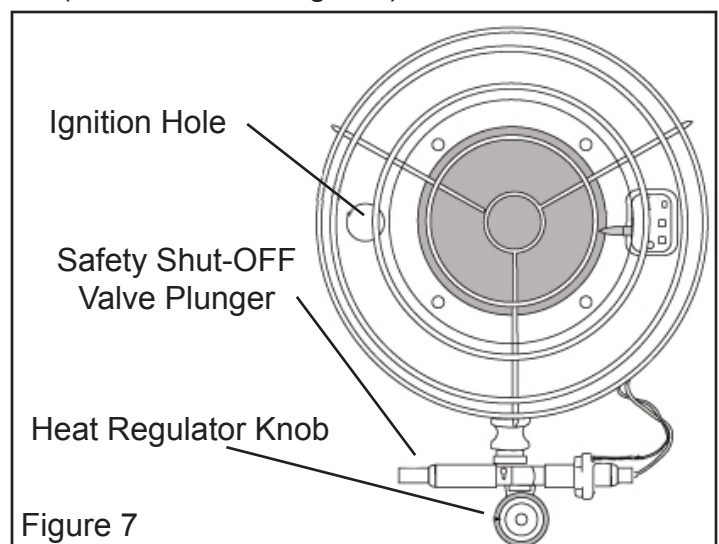

Figure 7
6. Insert a lit match into the ignition hole in the reflector. (See Figure 7)
7. Press the safety shut-off valve plunger for five (5) seconds.